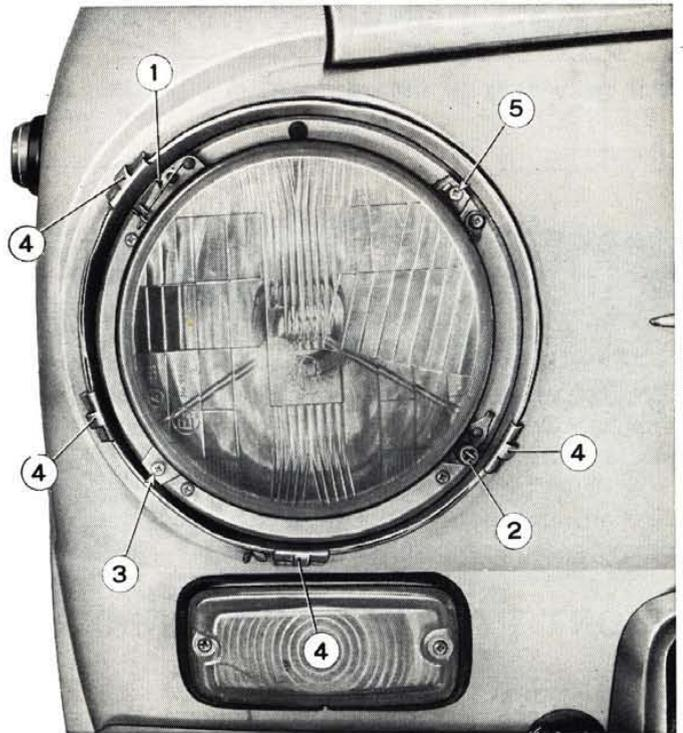

Fig. 361 - Headlamp without rim.
– Using a screwdriver, pry out the headlamp rim which is hooked up by spring retainers (4, fig. 361).
– Depress clips (1) so that the lamp unit will come out.
To aim headlights, switch on the low beam and work on the screw (3, fig. 361) for vertical adjustments, and on the screw (5) for horizontal adjustments, until the following conditions are obtained: